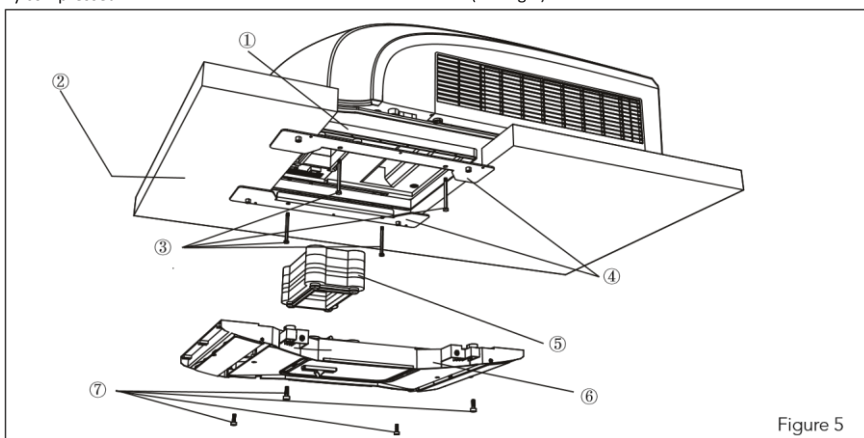

Figure 5
3. The mounting brackets should overlap with the surface of the vehicle ceiling. Tighten the bolts in a cross pattern and make sure the screw holes align with the holes in the adapter. Maximum torque on the bolts (4) is 1,8Nm. (See figure 5)
3. Carry the outdoor unit to the vehicle's top and align with the openings on the vehicle's top. Use 2 sets of mounting plate assembly and 4 screw bolts to mount the outdoor unit (See fig. 5).
6. Install the foam assembly on the air duct assembly. Use 4 screw bolts to fix the air duct assembly onto the mounting plate. After connecting the outdoor unit with indoor unit, check whether the foam assembly has come loose (See fig.5).